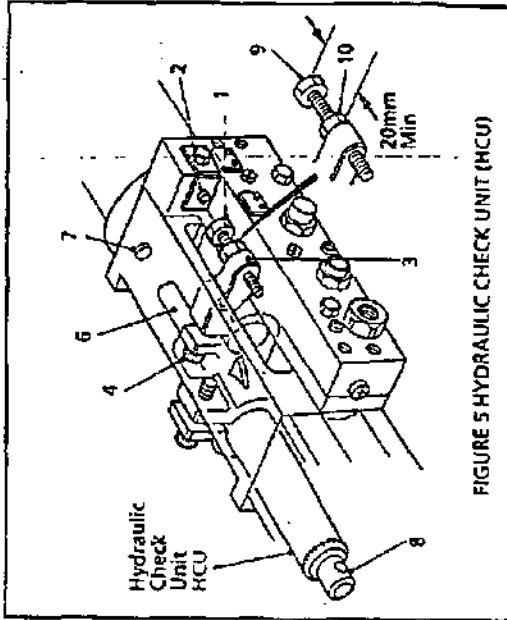

FIGURE 5 HYDRAULIC CHECK UNIT (HCU)
**SETTING DRILLING OPERATION (See Figure 5)**
- Use Figure for the final depth adjustment 5 (9).
- Lock using Figure 5 (10).
The end of the tap MUST be at least 14mm (9/16in) above the test block, to allow for the tapping head reversing engagement travel. Set the gap between Figure 5 (2) and (1) to equal the tapping depth PLUS the distance the tap is above the work piece.